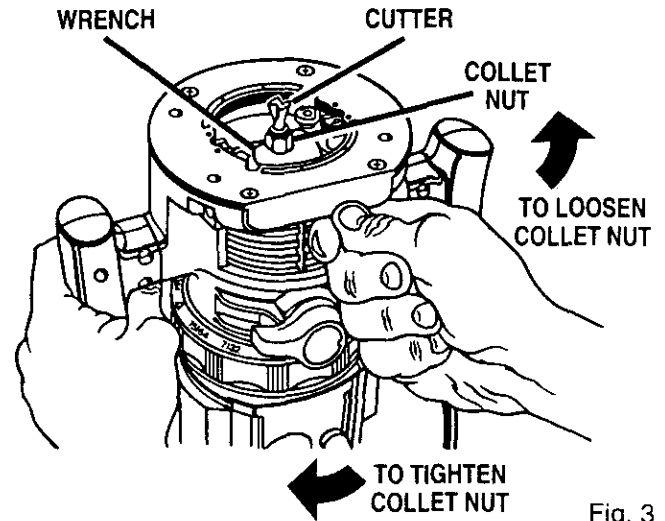

Fig. 3
■ Place your router upside down on table, then turn collet nut with wrench until lock mechanism interlocks. See Figure 3.
- Remove cutters by turning collet nut counter-clockwise enough to allow cutter to slip easily from collet. See Figure 3.
■ Tighten the collet nut securely by turning clockwise with the wrench provided. *See Figure 3.*